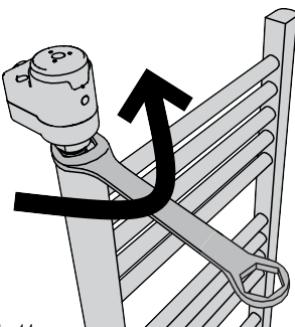

Fig. 14
3. Using a 27 mm spanner unscrew the MOBUS, rotating it anticlockwise until the MOBUS thread is completely off from towel rail  $\frac{1}{2}$ "GAS female thread (Fig. 14).